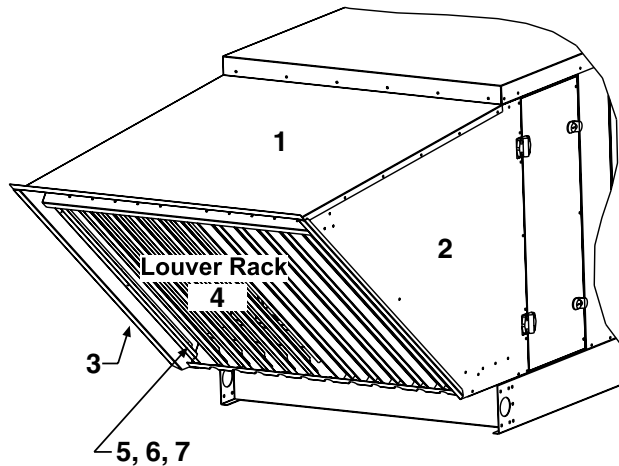

Figure 30. Inlet Air Hood Assembly (Refer to Table 49)
NOTE: In Figure 30, the screen (item 5) covers the inlet air hood opening and is secured using screen retainers (item 6) and clamps (item 7).